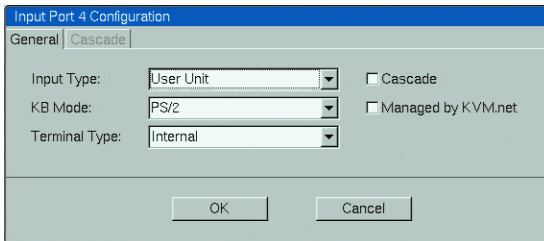

Figure 27 Configuration box
2. Click a DX User unit. The Configuration box appears, see Figure 27.